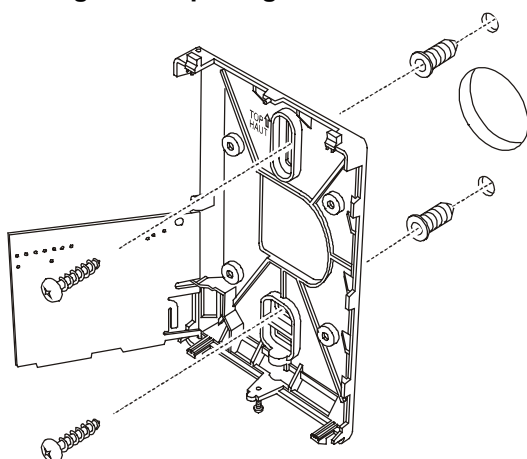

Figure 4: Mounting the Sensor Base
5. Use the supplied anchors and screws for mounting on drywall or plaster. Drill two 4.7 mm (3/16 in.) holes at the marked locations and tap nylon anchors flush to wall surface (see Figure 4).